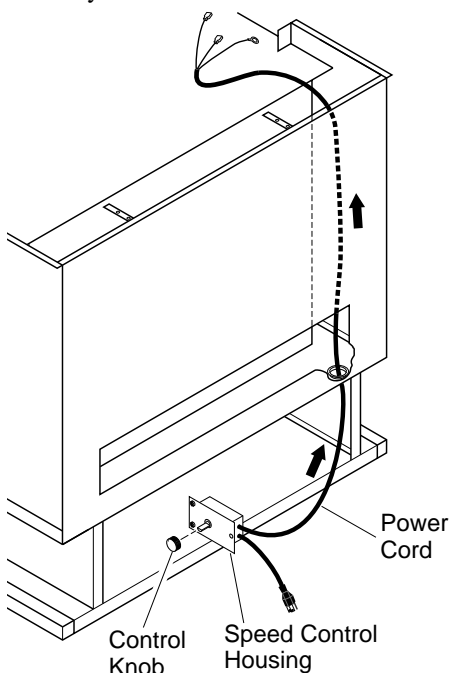
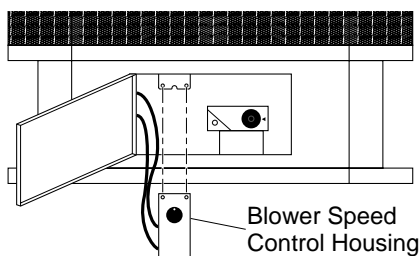

Figure 15 - Routing Power Cord
Figure 16 - Installing Blower Control Housing
9. Route ends of 3-wire power cord up from the lower control compartment through the plastic bushing, then up to the upper cavity of stove (see Figure 15).
13. Install plastic control knob onto output shaft of speed control housing (see Figure 15). Place speed control housing just inside control compartment door in front of stove (see Figure 16).
14. Using two screws provided in blower kit, mount blower speed control housing to mounting tab in left side of lower control compartment (see Figure 16).